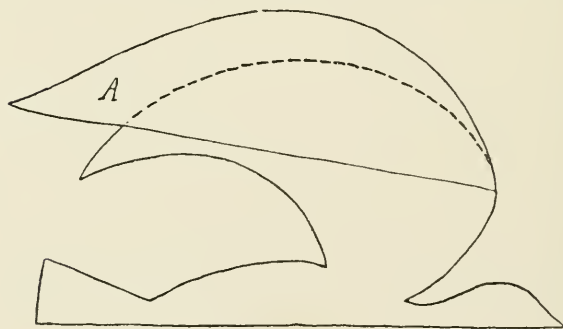

FIG. 477
(3) If the bird dives quickly down head first, you know that the head is too heavy, or the neck too long.
(4) If the bird rises and then falls the head is too light and probably not long enough.
(5) The wings can be made larger if necessary by the addition of tissue-paper wings gummed on as A in Fig. 477.